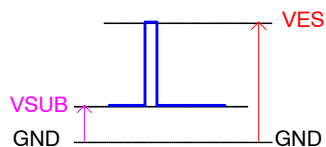

Figure 21.
1. Refer to timing diagrams as shown in Figures 21, 22, 23, 24 and 25.
The timing sequence for the clocked device pins may be represented as one of seven patterns (P1–P7) as shown in the table below. The patterns are defined in Figure 21 and